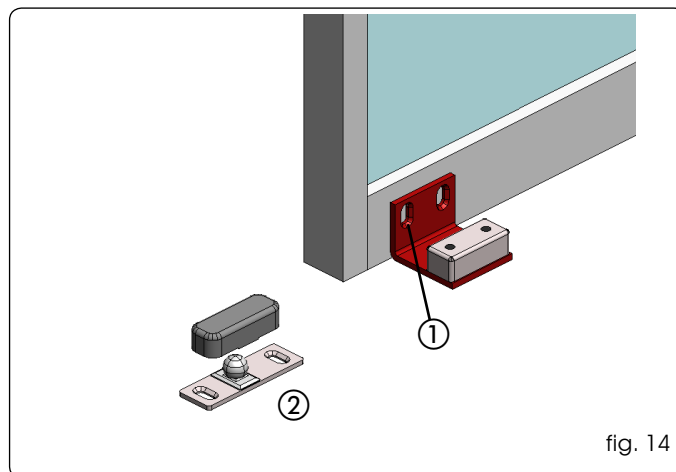

fig. 14
- Secure the sliding blocks as shown in Fig. 14 ref. ①, using adequate screws.
- Directly secure the sliding block to the floor, as shown in Fig. 14 ref. ②, using adequate expansion plugs and screws.